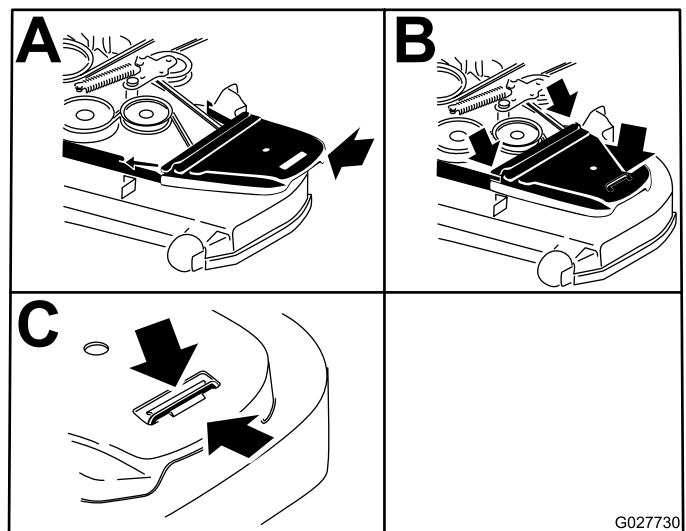

Figure 82
12. Install the belt covers (Figure 82).